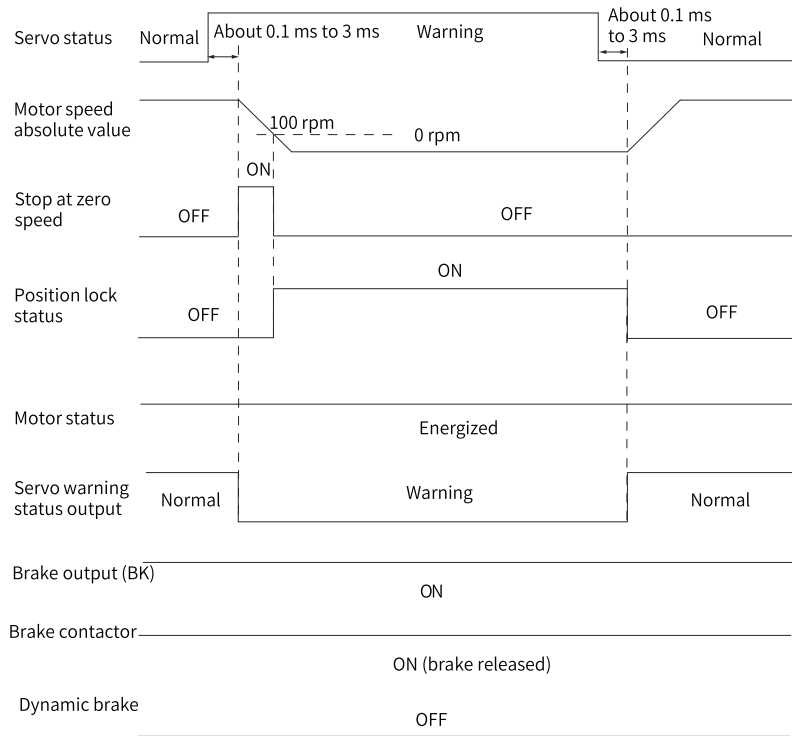

Figure 10-19 Sequence for warnings that cause stop
- When a No. 3 warning occurs on the servo drive, such as E900.0 (DI emergency braking), E950.0 (Positive limit switch warning), and E952.0 (Negative limit switch warning), the servo drive stops according to "Figure 10-19 Sequence for warnings that cause stop" on page 215.